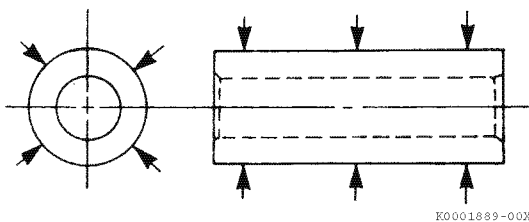

Figure 6-63
7. Measure the outside diameter of the wrist pin in three places and at 90° (**Figure 6-63**). See *Piston on page 6-8 for specifications*. Record the measurements.